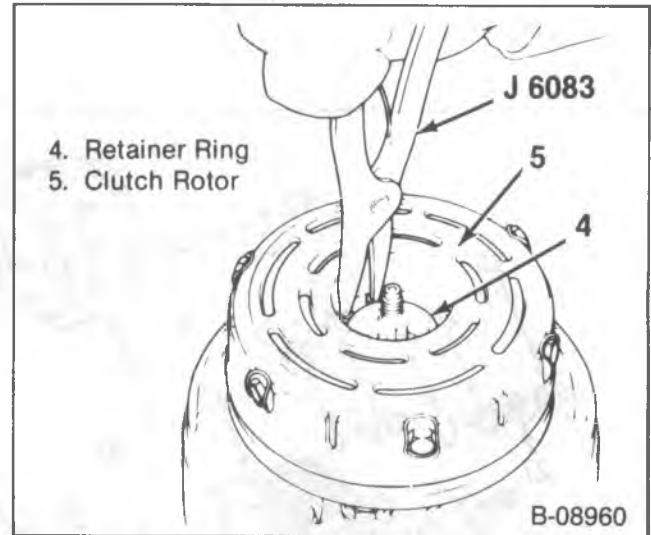

Figure 8—Removing the Rotor and Bearing Assembly Retainer Ring
1. Snap Ring with J 6038 (figure 8).